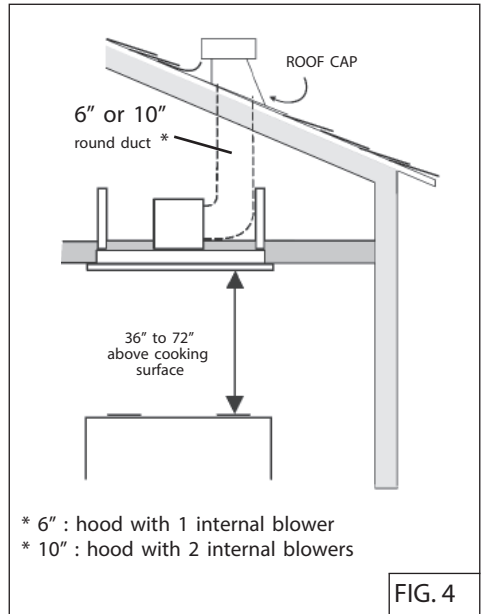

FIG. 4
2. Using an object such as a screwdriver or pen, gently place it in the center opening in the bottom of the remote and push inwards to dislodge the top touch panel from the remote body. (Fig. 4)
4. Install a roof cap. Connect round metal ductwork to cap and work back towards hood location. Use duct tape to seal the joints between ductwork sections (Fig.4).